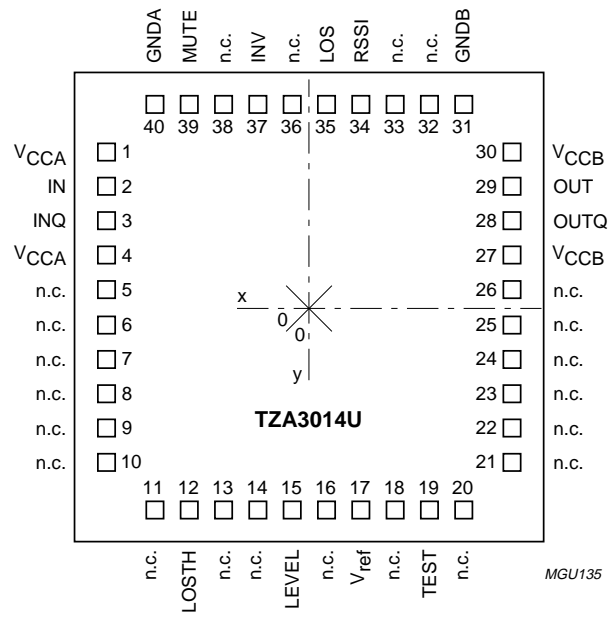

Fig.13 Bonding pad locations TZA3014U.
- All x and y coordinates represent the position of the centre of the pad in μm with respect to the centre of the die (see Fig.13).